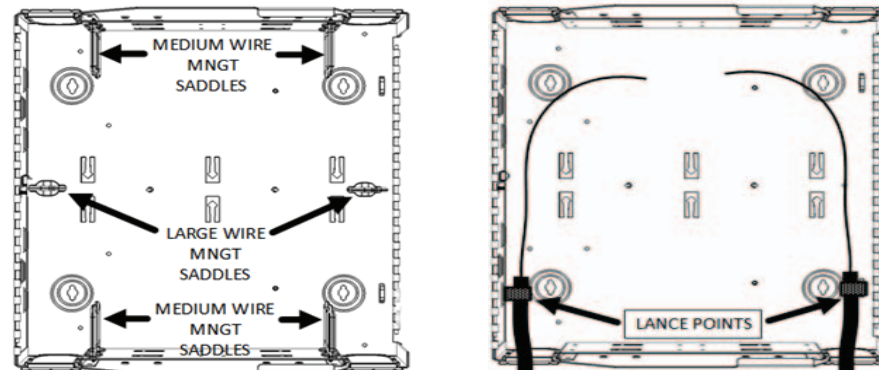

Figure 5
2. Position FOCA saddles as shown in (Figure 5).